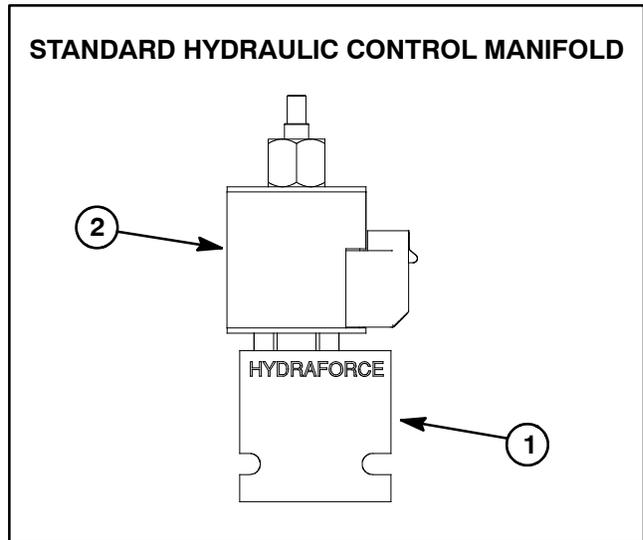

Figure 34
Two (2) identical solenoid valve assemblies are used on machines with standard hydraulic controls (Fig. 34). The solenoid valve coils used on these assemblies are identical.
3. Disconnect wire harness electrical connector from the hydraulic solenoid valve coil that is to be tested (Fig. 34 or 35).